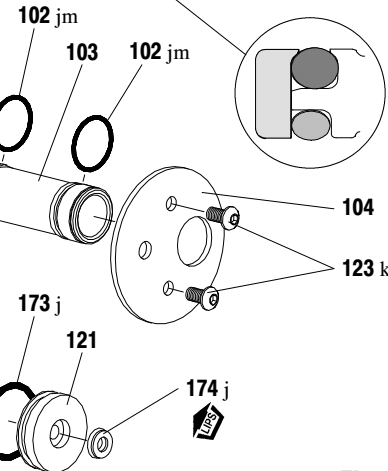

Figure 3
- NOTE: Both outer pump Fluid Sections must be removed to access the Pilot Section parts (see figure 3, page 7).
1. Remove two (123) screws and (104) plate from both sides of the (101) motor center body.
2. A light tap on (118) actuator pin should expose the opposite (121) plug and (167) pilot piston.
3. Remove (170) piston sleeve and inspect the inner bore for damage.